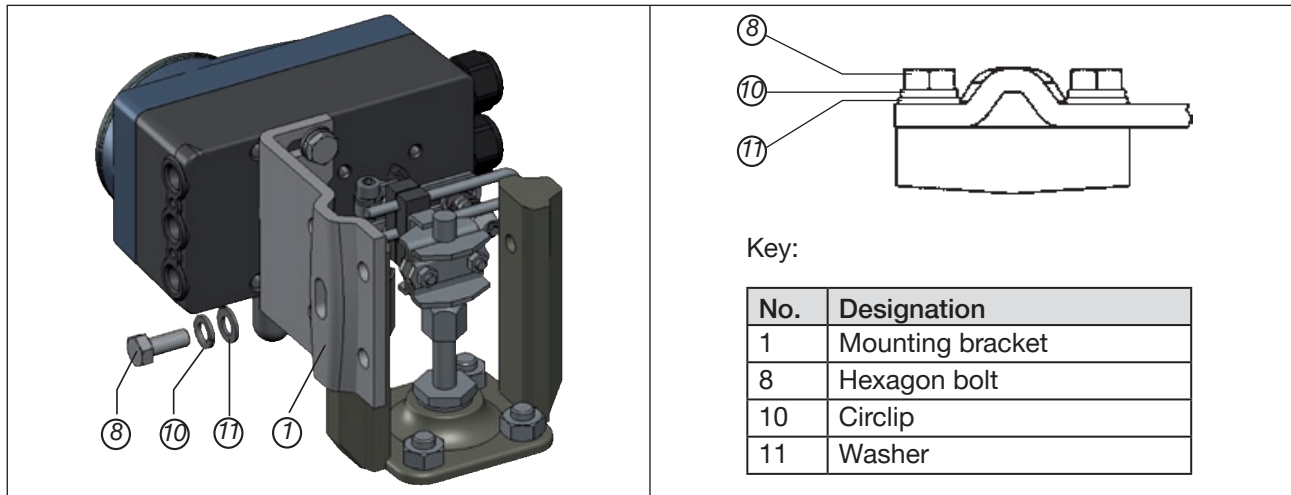

Figure 13: Attach positioner with mounting bracket; for actuators with cast frame
→ Attach mounting bracket to the cast frame with one or more hexagon bolts (8), washers (11) and circlips (10) (see "Figure 13").